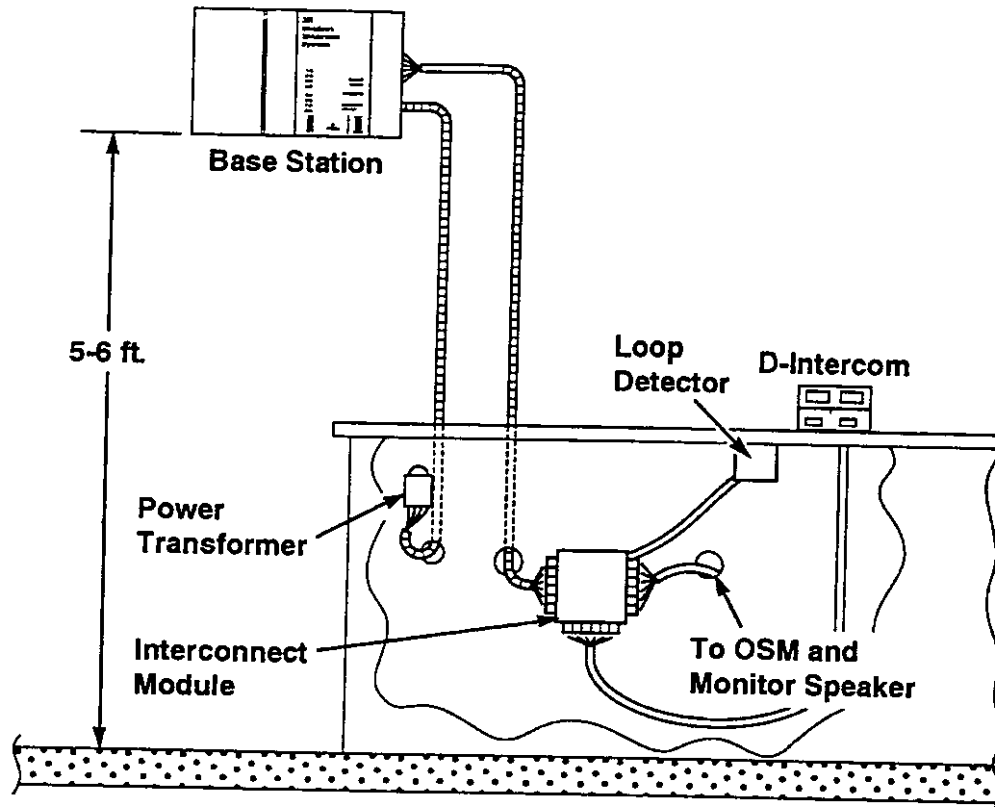

Figure 1. Typical Installation
| Figure 1. Typical Installation .....                          | 1 |
4. Feed the cables for speaker, microphone, vehicle detect and monitor speaker (if used) through the conduit down to the interconnect module or base station. (See Figure 1.)
5. Feed the transformer cable from the outlet to the base station. (See Figure 1.)